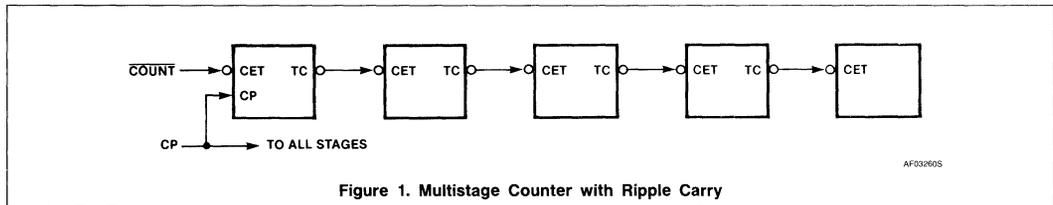

Figure 1. Multistage Counter with Ripple Carry
Two types of outputs are provided as overflow/underflow indicators. The Terminal Count (TC) output is normally HIGH and goes LOW providing CET is LOW, when the counter reaches zero in the Down mode, or reaches maximum (9 for the 'F568, 15 for the 'F569) in the Up mode. TC will then remain LOW until a state change occurs, whether by counting or presetting, or until U/D or CET is changed. To implement synchronous multi-stage counters, the connections between the TC output and the CEP and CET inputs can provide either slow or fast carry propagation. Figure 1 shows the connections for simple ripple carry, in which the clock period must be longer than the CP to TC delay of the first stage, plus the cumulative CET to TC delays of the intermediate stages, plus the CET to CP set-up time of the last stage. This total delay plus set-up time sets the upper limit on clock frequency. For faster clock rates, the carry lookahead connections shown in Figure 2 are recommended. In this scheme the ripple delay through the intermediate stages commences with the same clock that causes the first stage to tick over from max to min in the Up mode, or min to max in the Down mode, to start its final cycle. Since this final cycle takes 10 ('F568) or 16 ('F569) clocks to complete, there is plenty of time for the ripple to progress through the intermediate stages. The critical timing that limits the clock period is the CP to TC delay of the first stage plus the CEP to CP set-up time of the last stage.